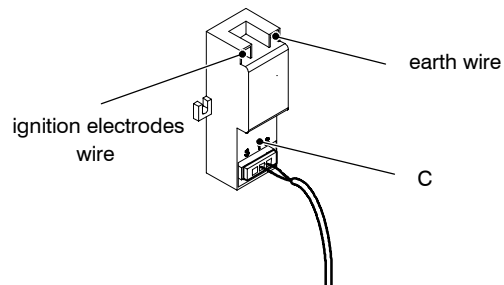

Fig. 18.3
**When reassembling the ignition electrodes be sure to connect correctly the wires to the spark generator (see Fig. 18.3)**